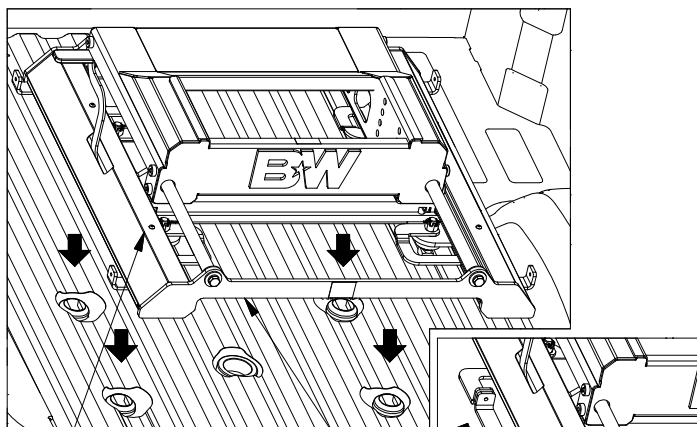

Figure B1: View of unlatched base.
CAUTION: Lifting the slider base under the sheet metal covers may cause damage to the base, grip base by end rail supports to lift, see Figure B1.
1. Place Base. Remove the latch pins from each side of the base and rotate the handles out, see Figure B1. Position the base over the attachment points. Carefully lower it until the latch cams pass through the floor and the base rests flat against the top of the attachment points.